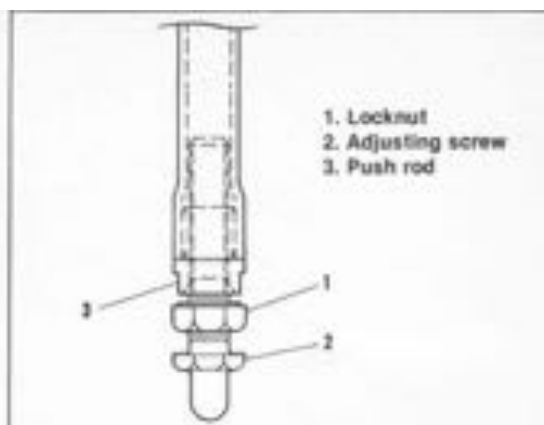

Figure 3-7A. Push Rod Adjustment
4. See Figure 3-7A. Turn one push rod adjusting screw (2) downward until the ball end of rod is seated in hydraulic lifter and has just no noticeable shake. Hold the push rod flats (3) with one wrench to keep rod from turning and with a second wrench turn the adjusting screw down slowly until all noticeable shake is taken up. Turn it downward until push rod bottoms then turn it up exactly  $1\frac{1}{2}$  turns. Lock the adjustment by turning locknut (1) against push rod and tightening the locknut to 10 ft-lbs torque. Repeat for the other front cylinder push rod.